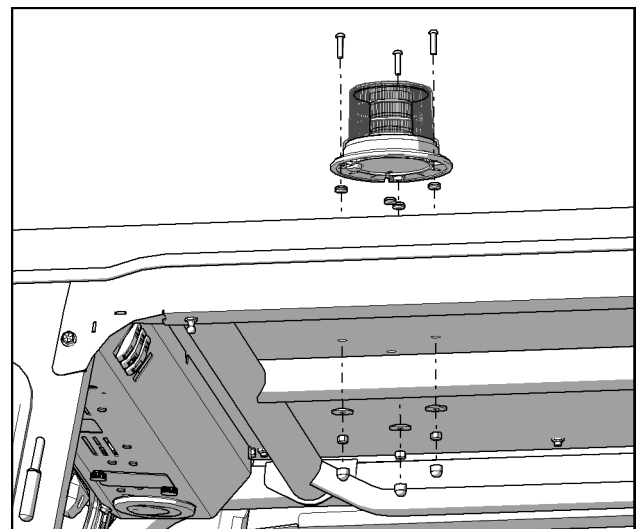

Fig 1.3
1.3 Feed the wire from the beacon light into the central of the four holes and secure the light to the roof by feeding 1/4-20 x 1" button head bolts through the light then the rubber grommets in the roof and 1/4" x 1" steel washer and secure using 1/4-20 nylon locknut. See figure 1.3.